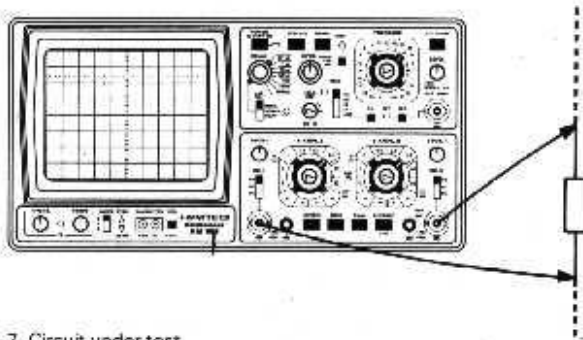

Fig. 7. Circuit under test
- Connect both probes across the circuit component, where the signal is to be measured. (See Fig. 7)